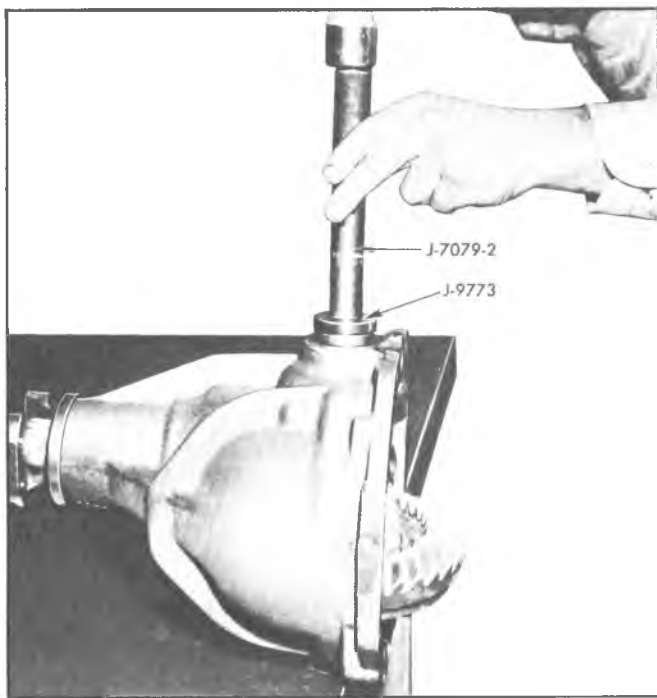

Fig. 6C—Installing Side Gear Yoke Bearings
1. Place new yoke bearings on Installer J-9773 and install bearing into carrier bore using Handle J-7079-2. See Figure 6C. Drive bearing until it is fully seated.